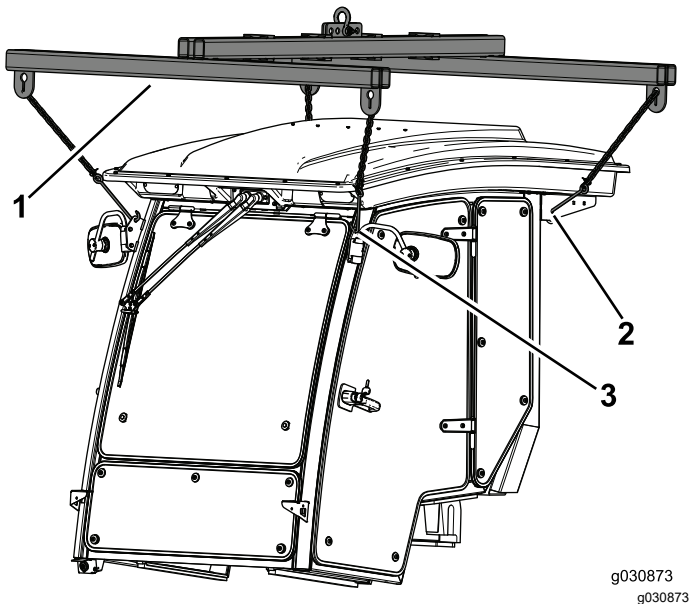

Figure 64
- Use the 4 lift points to support the cab above the machine (Figure 64).